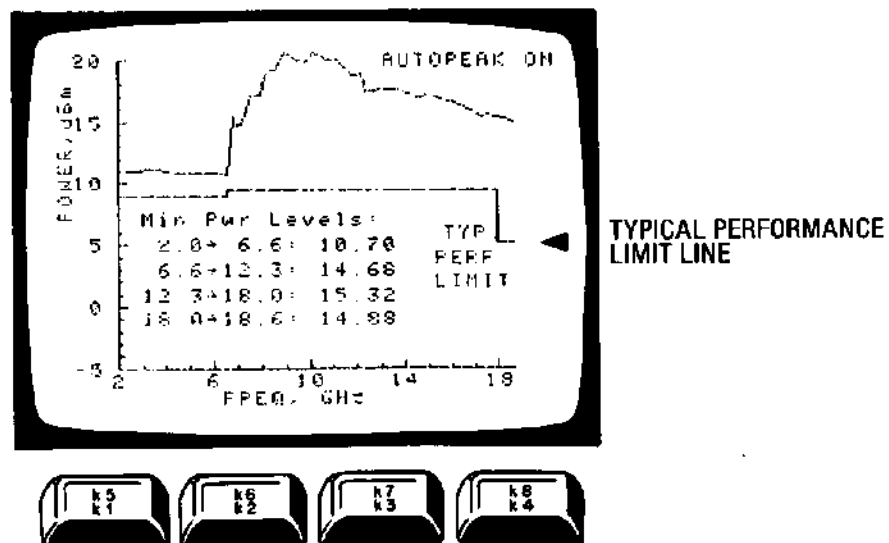

Figure 8-23. HP 8673E Power Plot
54. Compare the plot taken in Step 53 with the corresponding plot in Figure 8-23. There are three possible results:
- a. The plot taken in Step 53 is essentially the same as the corresponding plot in Figure 8-23. If this is the case proceed with AM/ALC CHECK beginning with Step 55.
- c. The power at one or more of the frequencies in the plot taken in Step 53 is significantly lower than the power for the corresponding frequency in Figure 8-23, but not below the Typical Performance limit line. This would not necessarily indicate an output power problem but could affect AM and/or ALC operation. Proceed with AM/ALC CHECK beginning with Step 55.